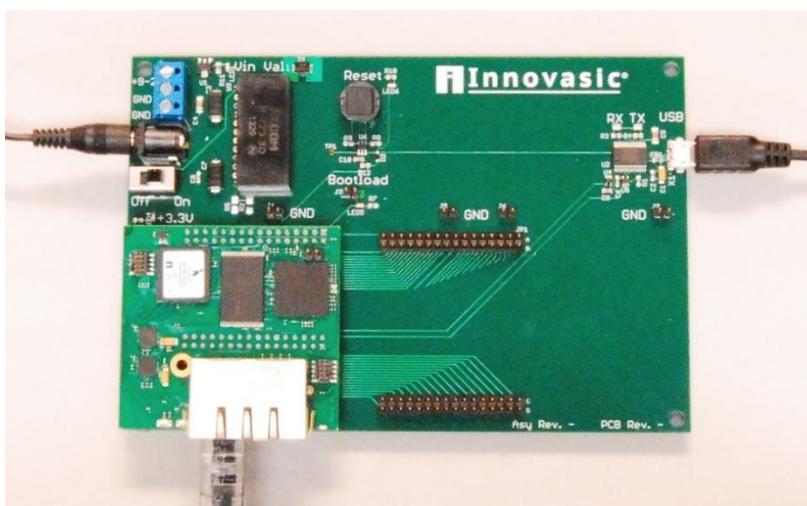

Figure 3 – Module and Baseboard Connection Detail Snapshot
Setting up the hardware is a simple five step process. At the end of these five steps, the baseboard and module with connections should look similar to Figure 3. The Evaluation Kit ships with the correct jumpers installed so there is no need to set any jumpers. There is also no need to set any switches. The UART Interface, Parallel Interface, or Ethernet Interface Personality Modules are not used in this set up procedure.
Step 1: Connect the module to the baseboard as shown in Figure 3.